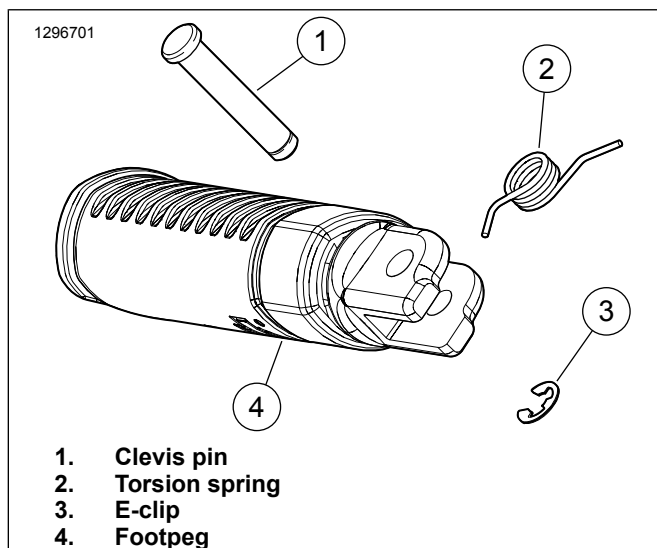

Figure 6. Rider Footpeg (Typical)
1. See Figure 6. Remove footpeg from foot support bracket. Retain footpeg, E-clip, clevis pin, and torsion spring for later use.
- a. Remove E-clip (3).